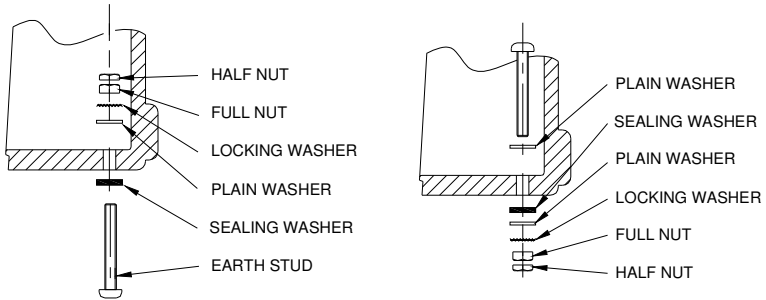

Figure 2 - Internal and external earth bonding stud arrangements
6. **If two metal glands are to be used:** remove one of the two Earth Bonding screws and re-assemble as shown in Figure 2 below to give an external stud. The earth stud is provided as suitable termination point to ensure earth continuity between cable glands. Note that it is the installer's responsibility to ensure the correct fitting of the glands (see section 2.1 above).